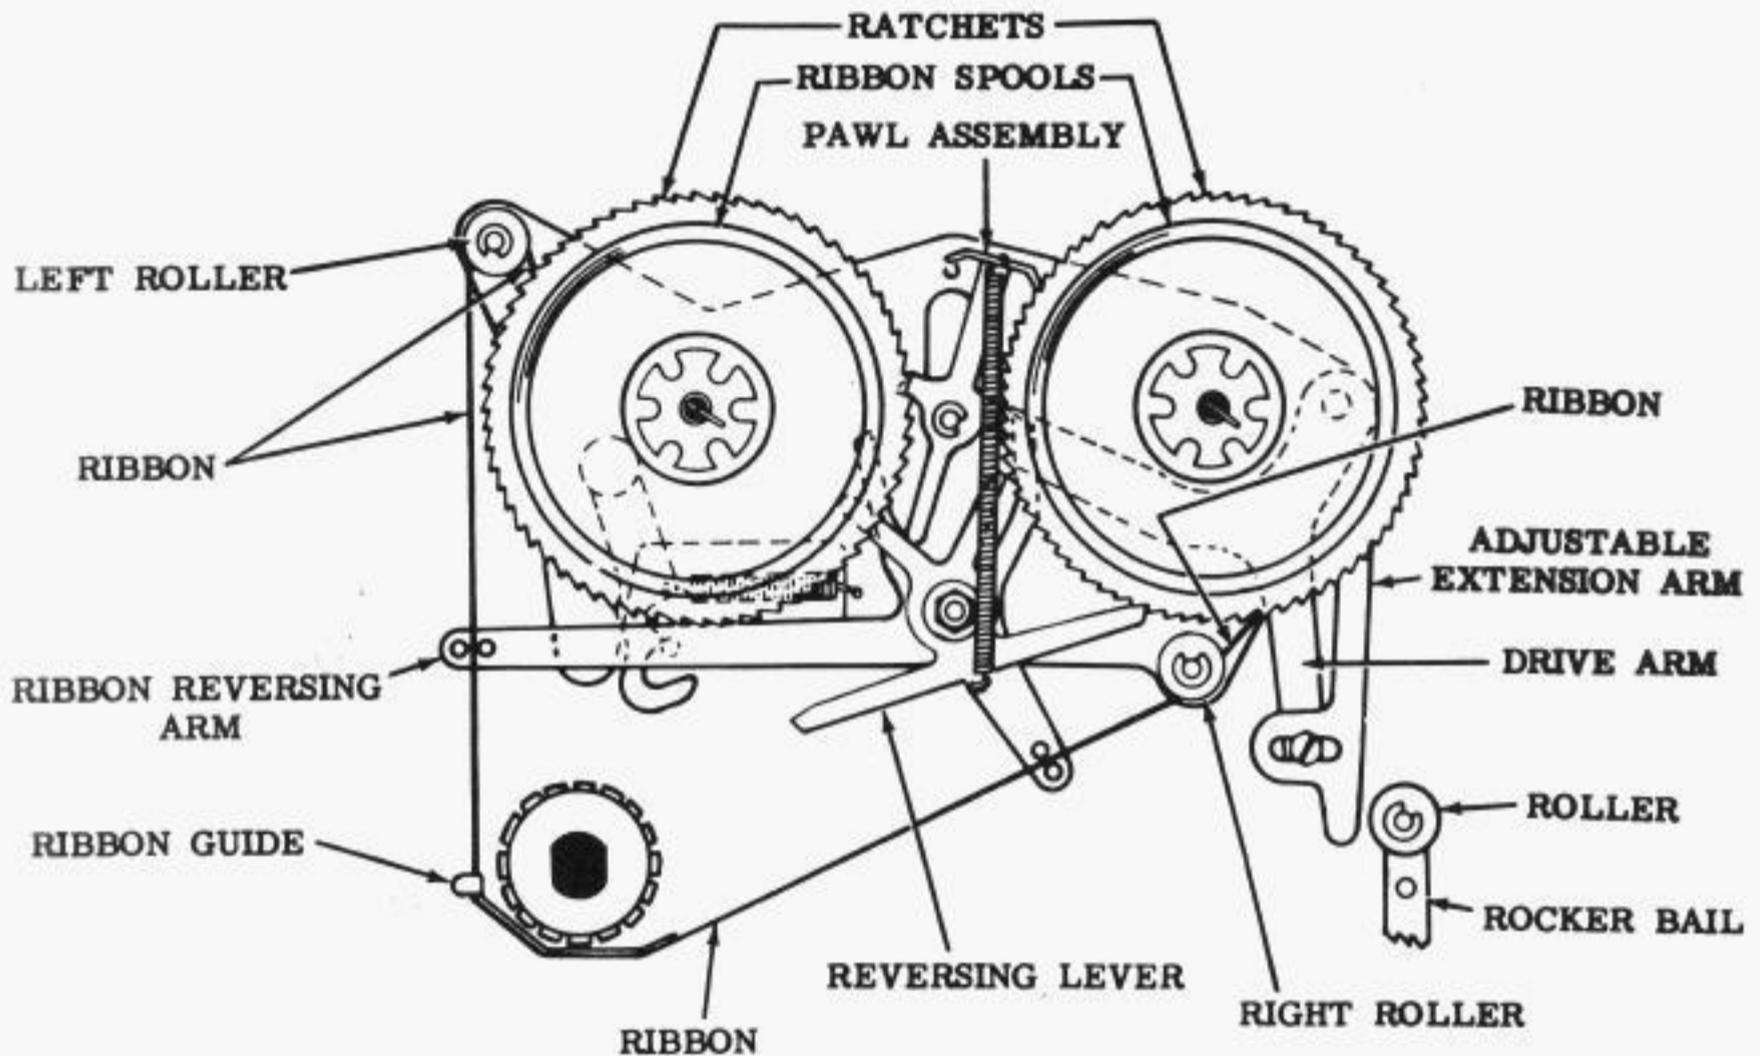

Figure 5 - Path of Ribbon
4.07 Open the cabinet or cover access door. The ribbon (Figure 5) mounts in a vertical position at the top of the reperforator, held in place on each of two ribbon spool shafts by a toggle lever. Engage the hook on the end of the ribbon in the hub of an empty spool (retain one spool if replacing a used ribbon). Wind a few turns of the ribbon onto the empty spool to make sure that the reversing eyelet has been wound upon the spool. The left spool winds clockwise, the right counterclockwise. Install the empty spool over the open toggle of its spindle, and turn the spool slightly until the driving pins on the shaft engage the holes in the rear of the spool. Close the toggle, and thread the ribbon around the roller, through the reversing pins (making sure the eyelet is always above the pins) for both